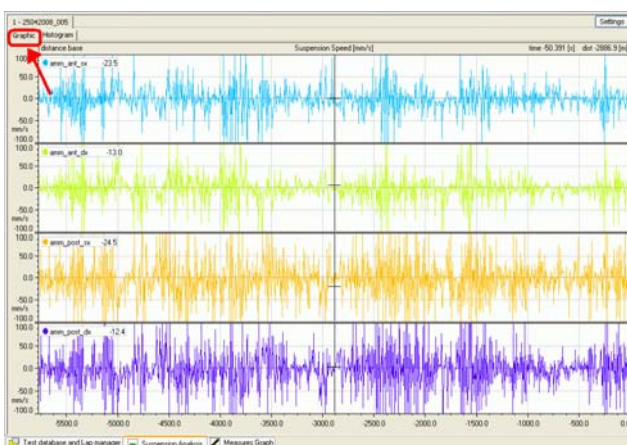

Figure 3a – Graph window.
- **Graphic:** represents punctual values of suspensions reached speeds based on time and distance (figure 3a).
To switch from one layer to the other click on its label (highlighted in red in Figures 3a and 3b).
2. Set “Suspension speed end of scale” box (green box in **Figure 6**) that corresponds to the graph end of scale (vertical axis of Graphic window – **Figure 3a**). It is a modular value (to say that it works both as a positive and as a negative max value). In **Figure 6**, for example, max suspension speed value is ± 100 mm/s.